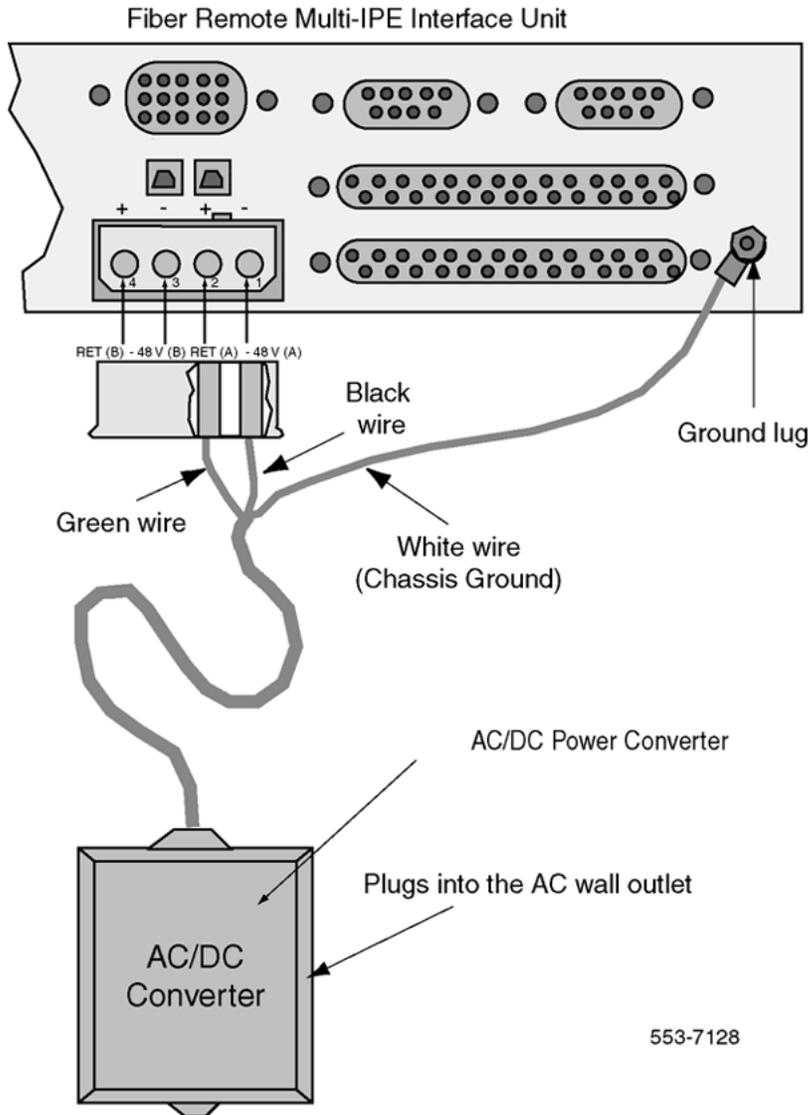

Figure 13: DC system power source connection to the Fiber Remote Multi-IPE Interface unit
The AC/DC Power Converter plugs directly into a 110 V AC wall outlet. The DC power cord extends from the Power Converter to the -48 V DC power connector on the Fiber Remote Multi-IPE Interface unit I/O panel. Refer to Figure 13: DC system power source connection to the Fiber Remote Multi-IPE Interface unit on page 66 for an illustration of this power source connection.
2. Install the white wire onto the Ground lug at the Fiber Remote Multi-IPE Interface unit I/O panel, as shown in Figure 13: DC system power source connection to the Fiber Remote Multi-IPE Interface unit on page 66.
Figure 13: DC system power source connection to the Fiber Remote Multi-IPE Interface unit on page 66 illustrates the POWER connector on the I/O panel of the Fiber Remote Multi-IPE Interface unit.